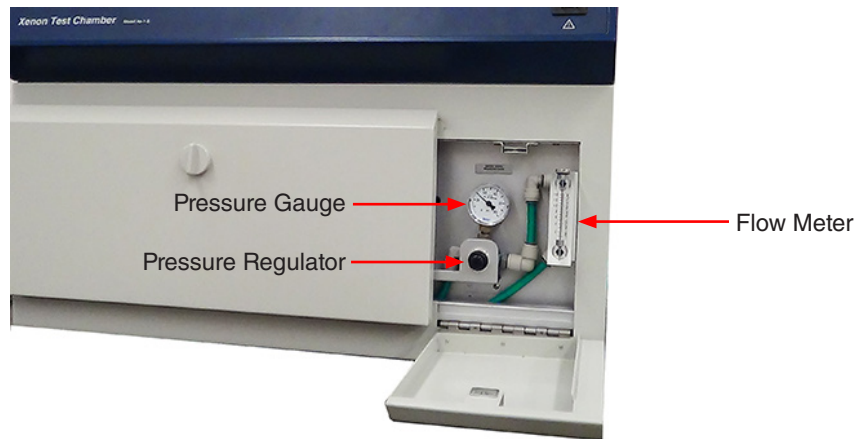

Figure 8c: Plumbing box inside right front door.
- Located in plumbing box (Figure 8c)